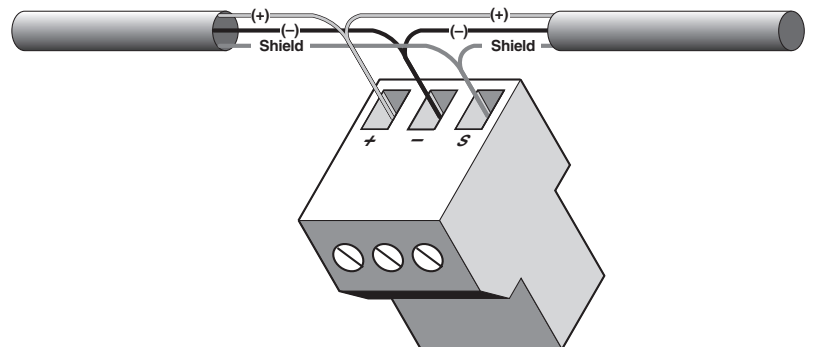

Figure 12 Connecting communications wires to the RS-485 terminal block.
Each Enercept meter has a 3-position plug-in RS-485 terminal block (Figure 12 on page 12) for connection to a 2-wire Modbus communications link. On the Enercept meter, the communications connections are labeled +, –, and S (shield). To create the communications link, daisy-chain devices using a twisted, shielded pair wire such as Belden 1120A.
2. Wire the + terminal of the Enercept meter to the + terminal of the next device, wire the – terminal to the – terminal, and wire shield to shield (see Figure 12 below).